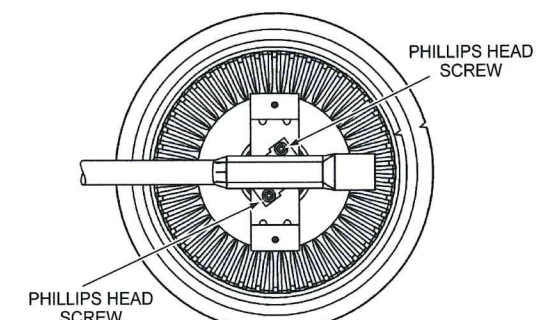

FIGURE 11.
- Remove the two (2) Phillips Head screws securing the burner to the burner tube, see Figure 11.